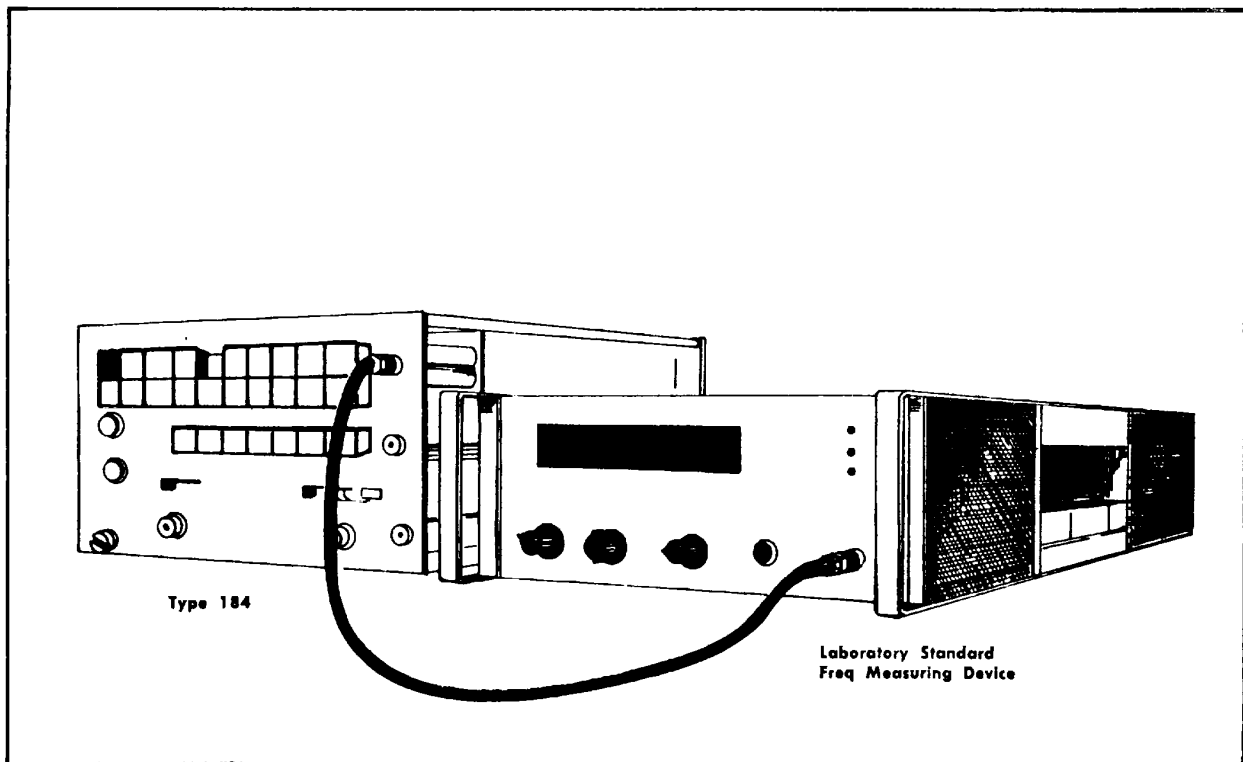

Fig. 6-10b. Suggested setup for adjusting crystal oscillator frequency to National Bureau of Standard. Step 5
a. Test equipment setup is shown in Fig. 6-10b. There is no direct connection between the Type 184 and either the receiver or the test oscilloscope.